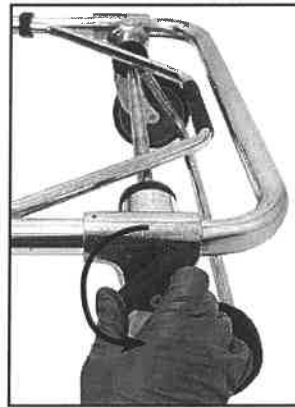

Figure 8 - 35X Lever
- **35X:** Release the cot from the safety hook by turning the lever counter-clockwise (Figure 8).